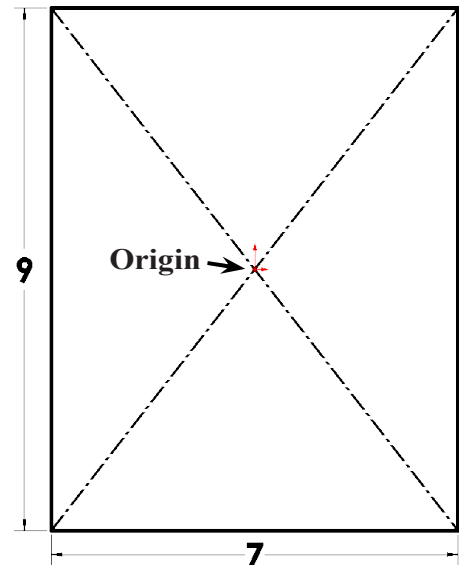

Fig. 2
Step 4. Sketch a rectangle starting at Origin , **Fig. 2**.
Step 5. Click **Smart Dimension**  (S) on the Sketch toolbar.
Step 6. Add dimensions, **Fig. 2**.